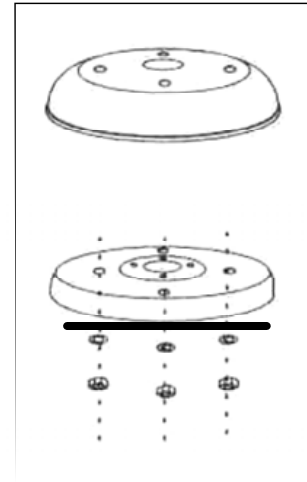

Figure 2
A. Disassemble the base. Unscrew 4pcs M8 bolts and 4pcs M8x55 bolts from weighted box and base (Figure 2).